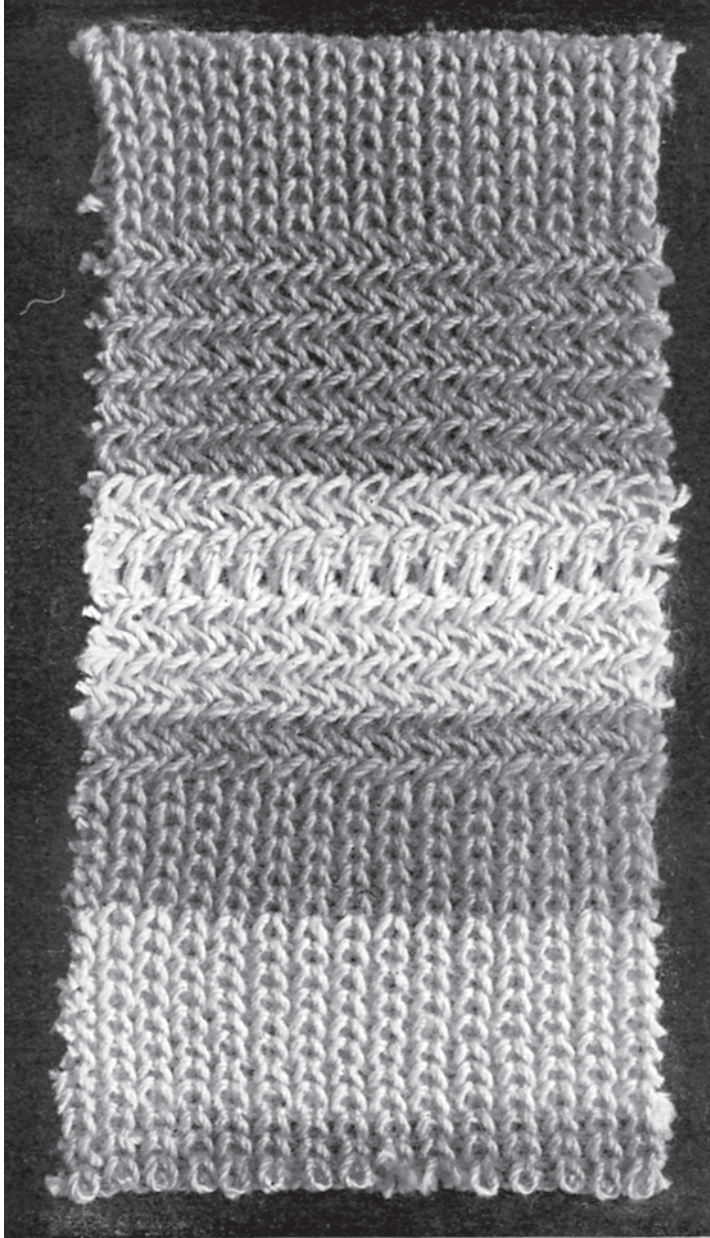

Fig. 86. Face of Sweater Cloth, Showing Separating Course and Racked Stitches.
**Shogged or Racked Stitches.** Among the other notable features of this machine, is the *shogged* or *racked* stitch, which forms the much desired edge for sweaters (Figs. 86 and 87) and other knitted garments. These stitches are made after knitting the body with the half cardigan, or royal fancy, the plain rib, or other stitches, as the
Another important and desirable feature of these machines is the *separating course* of knitting (see across the middle of Figs. 86 and 87), which enables the operator to separate the goods without cutting the fabric, leaving a clean, smooth, finished edge.
**The Separating Course.** (See Fig. 86.) One garment being